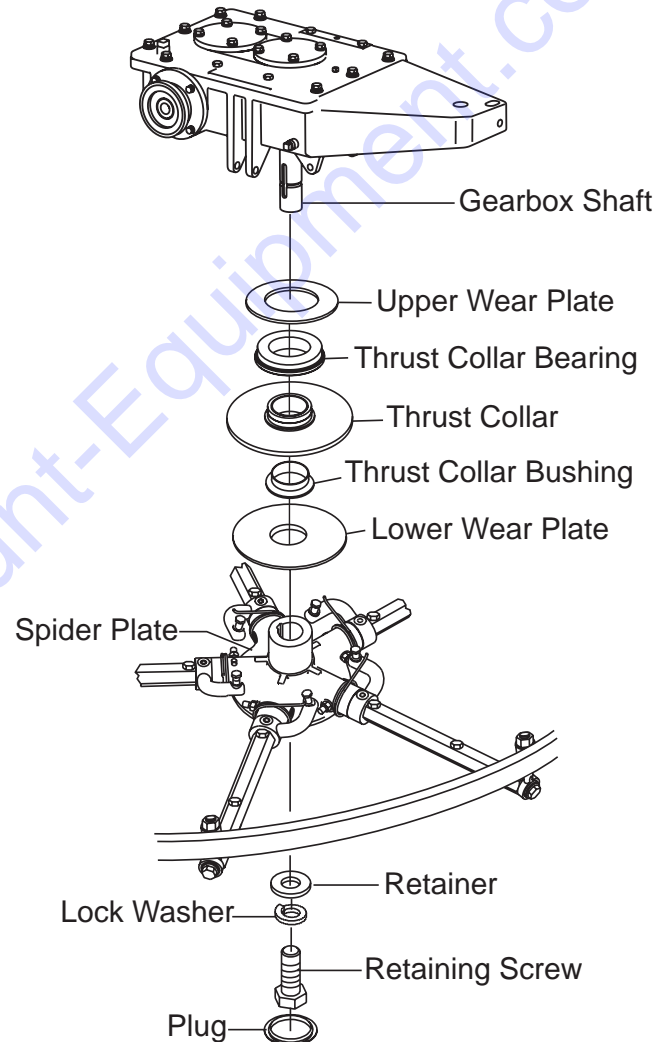

Figure 41. Spider Removal
1. Locate the cone point square head set screw (Figure 41) and attached jam nut found on the side of the spider assembly.